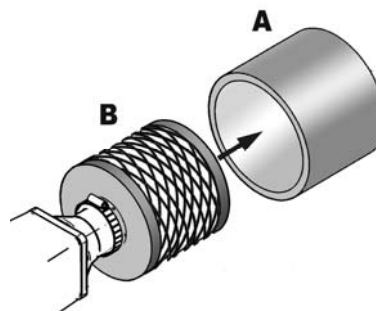

Fig. 7.2.12
Engine is provided with an intake air filter. This filter has two components, part (A) and (B). To perform filter element cleaning (A), use water with soap as explained in chapter 7.1. Filter assy, parts (A) and (B) must be changed both after two years of service. See Fig. 7.2.12.